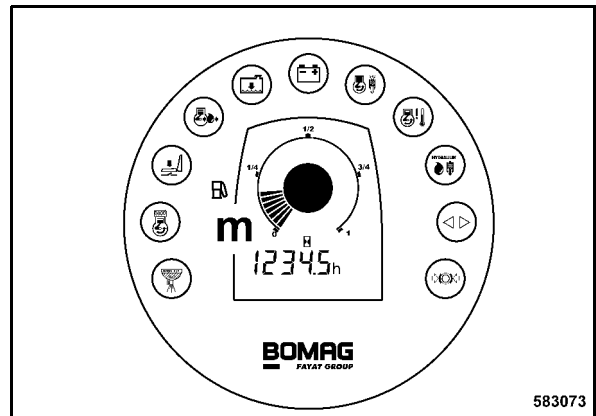

Fig. 123
- Check the fuel level on fuel gauge (m) (Fig. 123) in the instrument cluster.